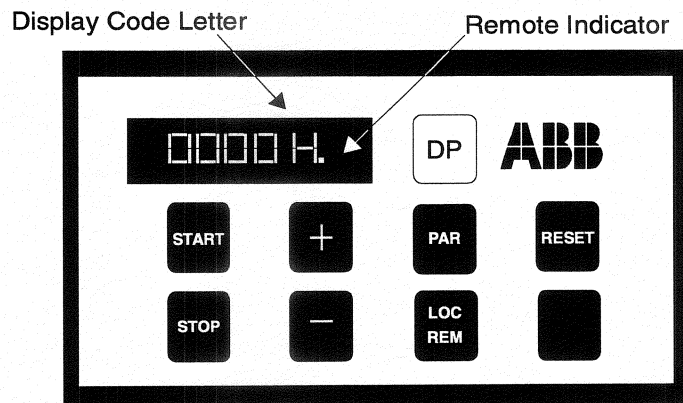

Figure 6-3 Control Panel Display
**Display Operation** - In the normal operating mode, pushing the display button (Figure 6-3) will provide readings on:
The readings are identified by programmable code letters that appear after the readout on the display (Figure 6-3).